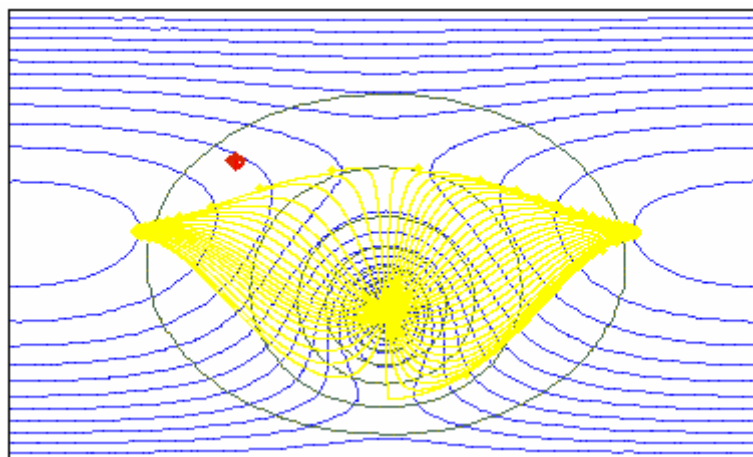

Figure 53: Computed 3D-flowlines from the well
3. After having entered the information as indicated in the explanation above, we simply click on the OK-button and watch the flowlines being drawn. After a while, we get the following picture (Figure 53):
In Figure 53 we can see that the recharge area of the well has a butterfly-like shape, and (most importantly) that the landfill lies outside the recharge area of the well. Polluted groundwater leaching from the landfill does not threaten the well abstraction.